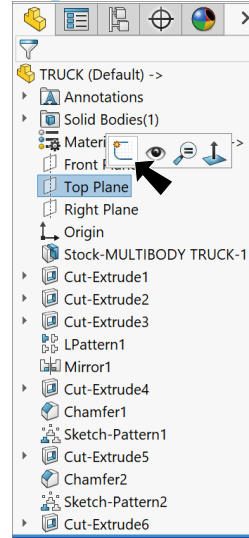

Fig. 65
Step 1. Click **Top Plane**  in the Feature Manager and click **Sketch**  on the context toolbar, **Fig. 65**.